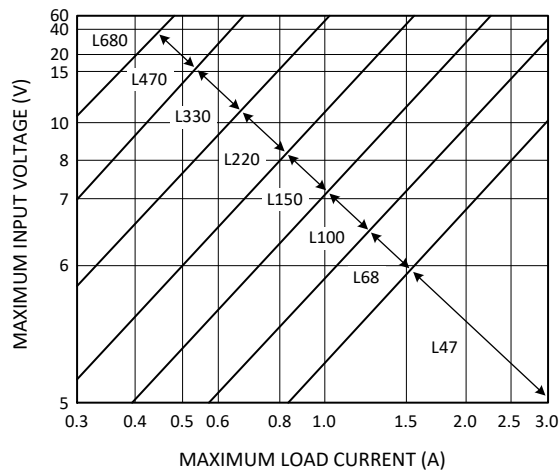
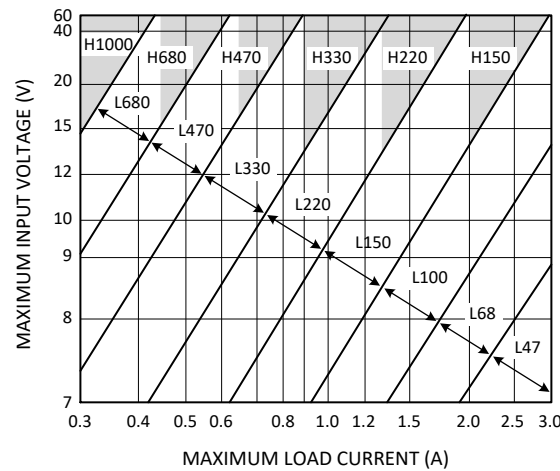
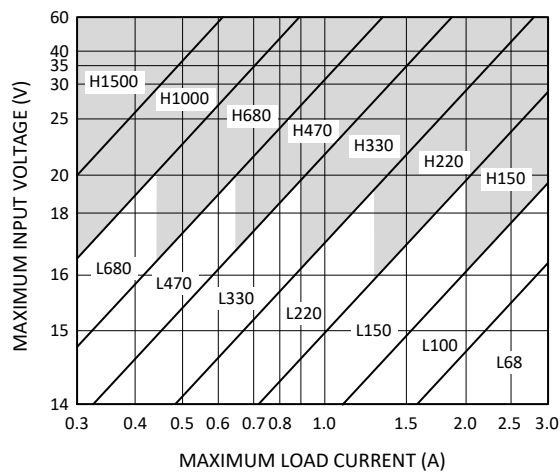
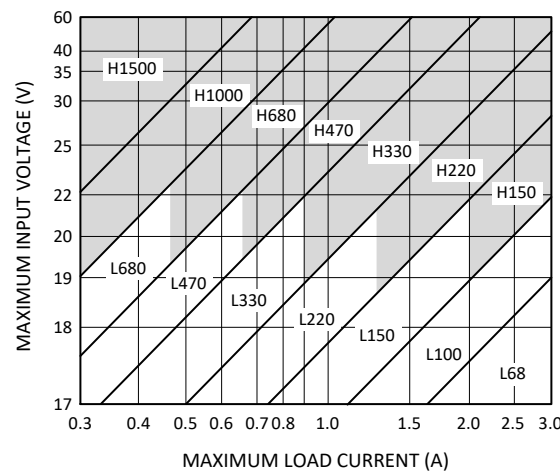

Figure 21. LM2576-3.3
Figure 22. LM2576-5.0
Figure 23. LM2576-12
Figure 24. LM2576-15
- 1) Select the correct inductor value selection guide from Figure 21, Figure 22, Figure 23, or Figure 24. (Output voltages of 3.3V, 5.0V, 12V or 15V respectively). For other output voltages, see the design procedure for the adjustable version.
- Use the selection guide shown in Figure 22.